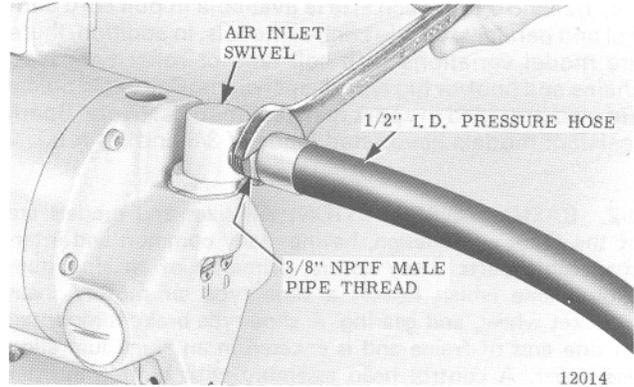

Figure 2-1. Connecting Air Hose to Hoist.
- a. Connect hoist to nearest filtered and lubricated air source using minimum 1/2" I.D. air hose assembly (see Figure 2-1). Avoid use of reducing bushing and nipple or hose assemblies of smaller diameters which may cause restrictions.